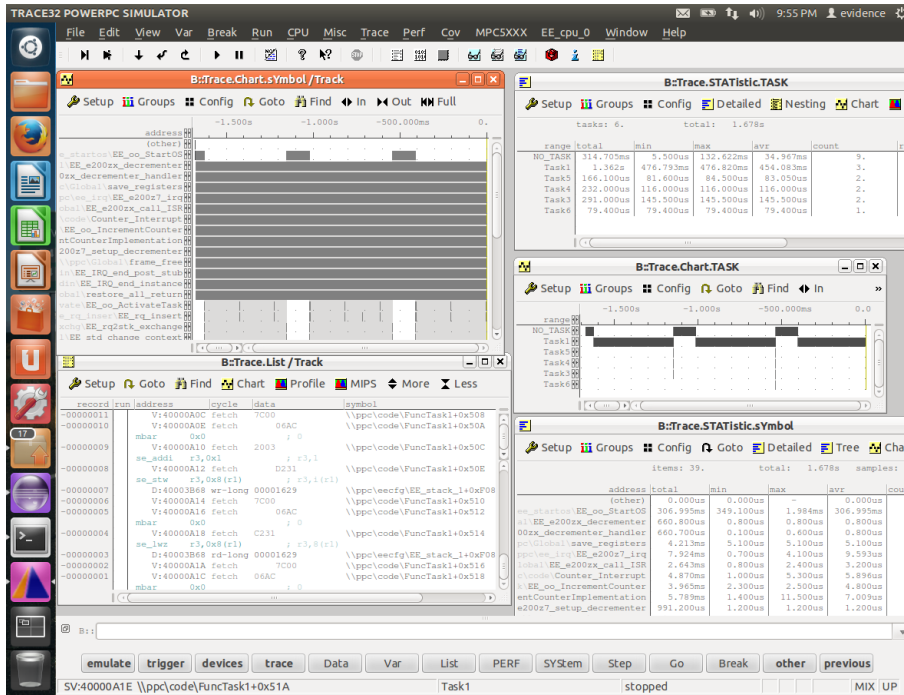

Figure 4.7: The Trace window of Lauterbach TRACE32. Please note context switch Gantt chart, and the timing measurements for the application tasks.
- **Trace:** shows some trace-related features available in TRACE32. Both statistics and graphics views are available with trace information at symbol or task level. In the graphics views, the user can enlarge or reduce the time scale, using the mouse wheel. Some windows are “tracked” each other, so that clicking with the mouse in a trace window changes the tracked windows accordingly. The Trace.List window shows the recorded program and data trace. “More” and “Less” buttons are present to show or suppress details of trace information, from HLL view to assembly code and data access cycles. A screenshot of this window is available in Figure 4.7.